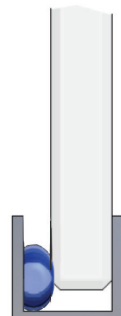
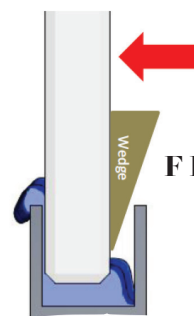

FIG 7.
FIG 8.
- From outside the shower, slide glass panel into position (FIG 7) and use small wedges (FIG 8) or a flat plastering blade to slide glass panel back to inside edge of channel and against silicone.